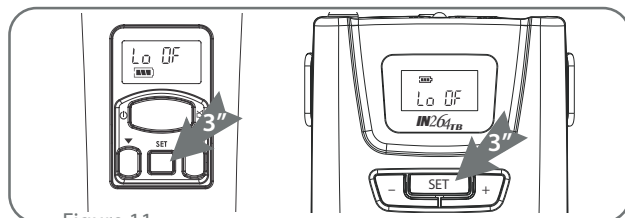

Figure 11
- Press "Set" button for 3 seconds to enter setting window. (Figure 11)